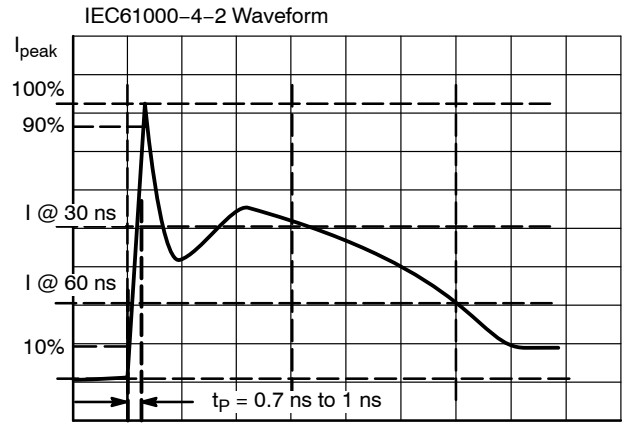

Figure 3. IEC61000-4-2 Spec
- Typical waveform. For test procedure see Figures 3 and 4 and Application Note AND8307/D.